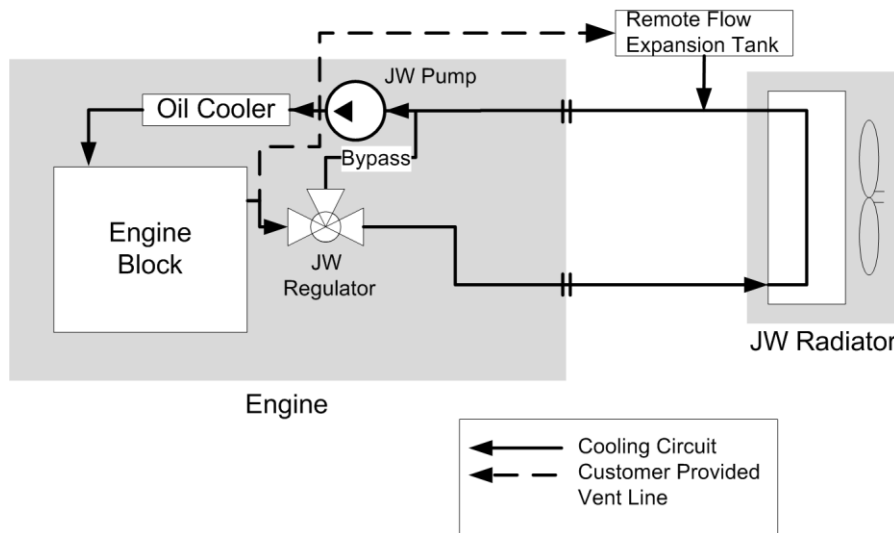

Figure 35: G3300 NA cooling system schematic.
- G3300 NA, (Figure 35 on Page 50).